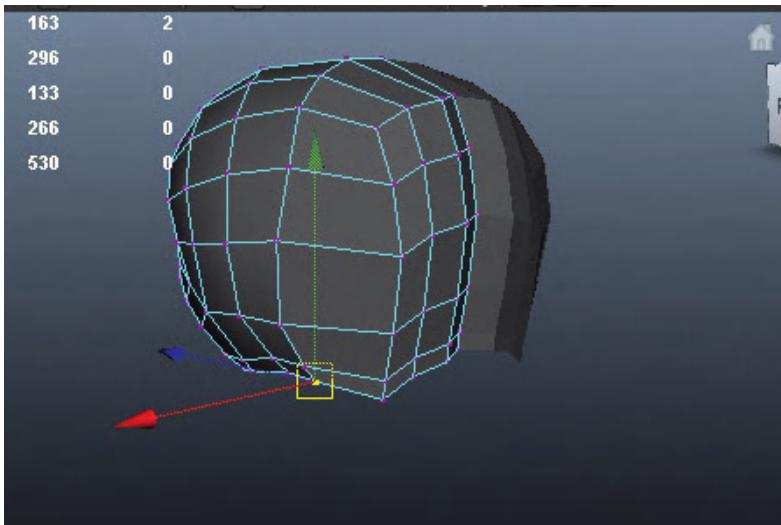

FIG 4.37 Closing up (visually) the back corner of the head by snapping (moving) the vertices to match.
Step 54: Clean up the seam. Using the Move Tool, snap the vertices to close-up the hole of the back corner (Fig. 4.37).